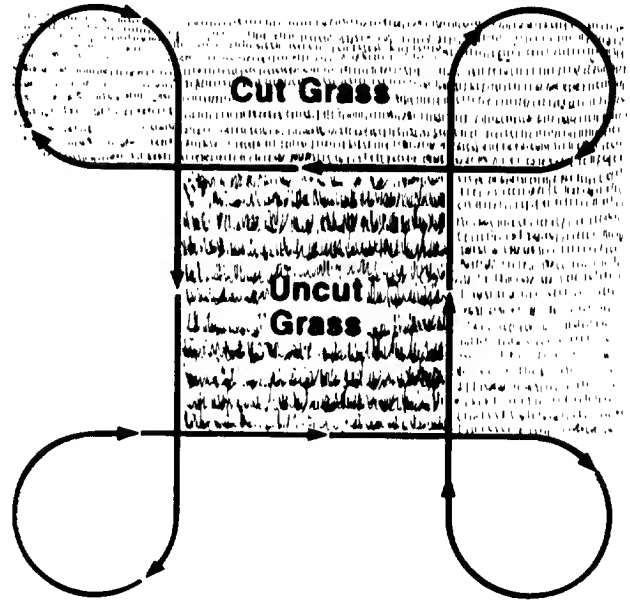

Figure 37
4. Follow the mowing procedure shown in Figure 37.